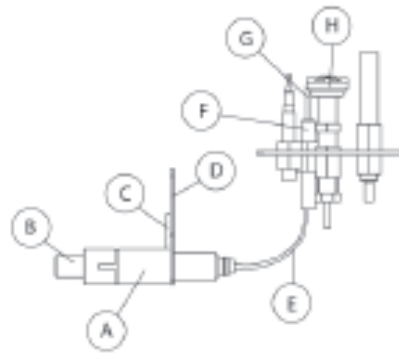

Figure 22. Pilot ignition components.
It is uncommon for the Piezo spark ignitor (fig 22-A) to fail, unless it has mechanical damage. If the spark is not conducted forward, it could be the result of a break in the electrical circuit leading up to the pilot head. The spark is small or weak if there is too much resistance from a bent wire (E), or if corrosion appears at the electrode (G) or the pilot head (H). This could result in insufficient heat to light the gas. Inspect the pilot burner by looking for damage to the individual parts. Check for damaged wires or wires crushed between plate sections of the appliance and check for loose connections.